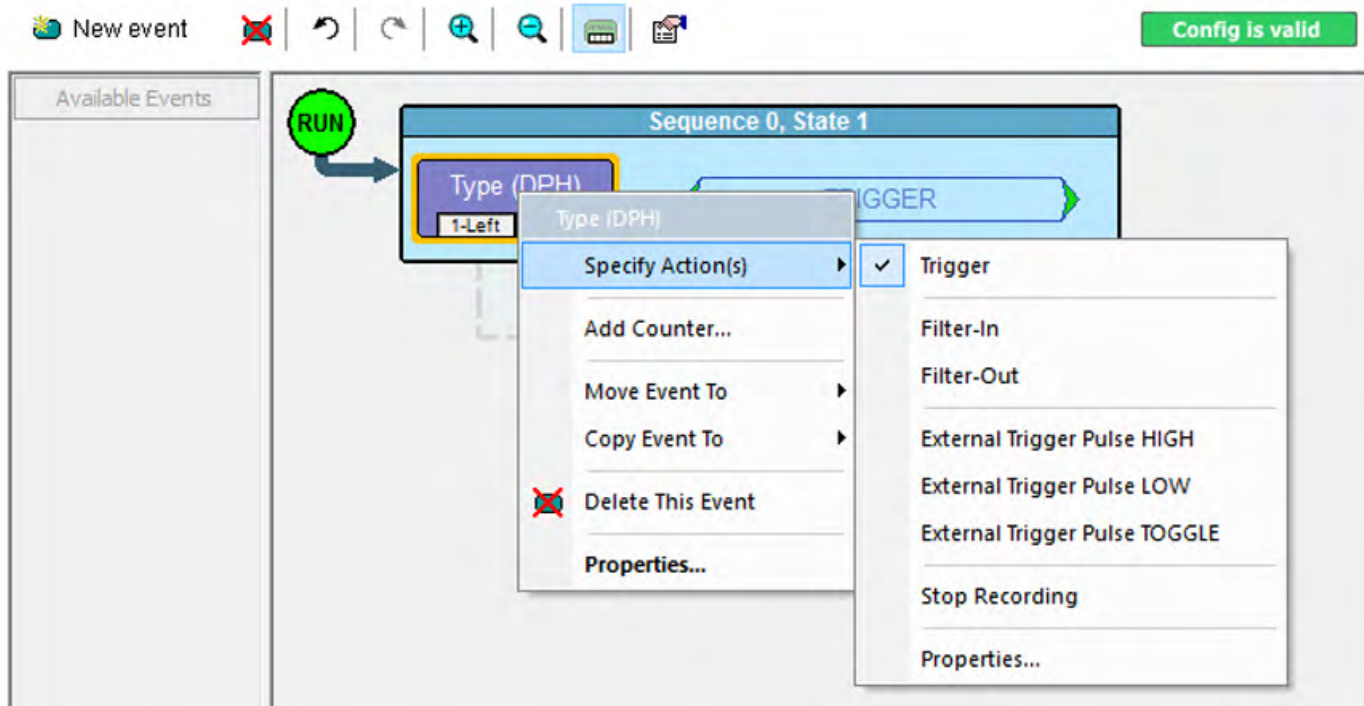

Figure 10.30: Assigning Action to Event Button.
1. Right-click the **Event** button to display a pop-up menu (see Figure 10.30 on page 411.)